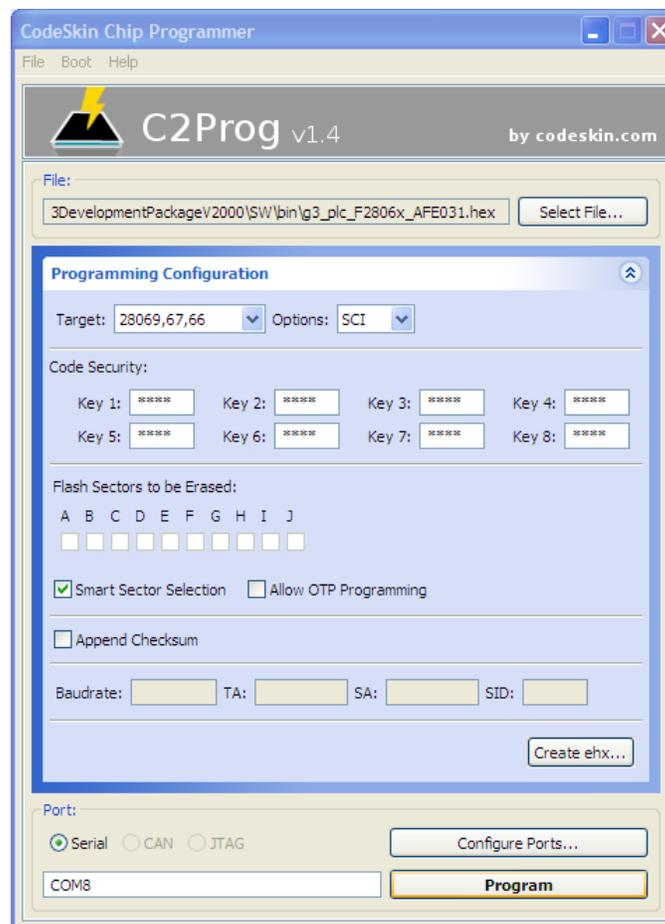

Figure 6. Selecting G3-PLC Binary to Be Flashed (via SCI)
6. Program the *.hex (located in c:\Texas Instruments\<PackageName>\SW\bin) as shown in Figure 6. If the UART cable is used, select serial port. Otherwise, if the USB-serial cable is used, select JTAG port.